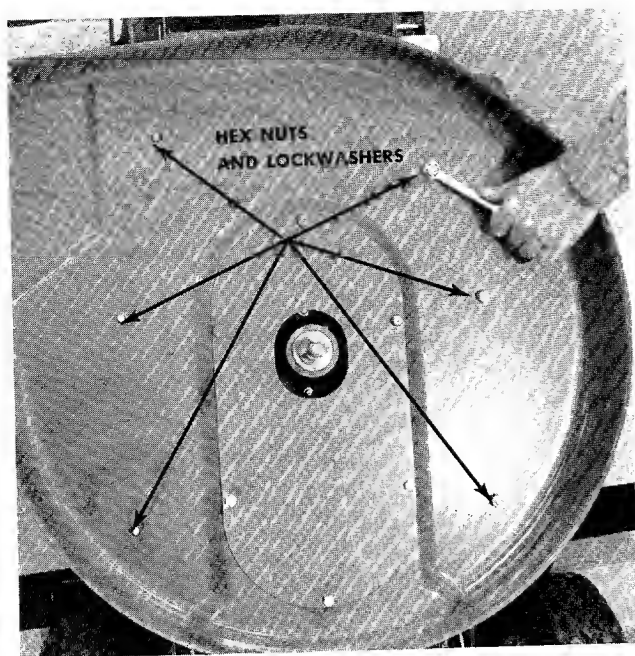

FIGURE 19. REMOVING THE DECK
- Step 3. Take off the deck by removing the six hex nuts and lockwashers as shown in figure 19.
Step 3. Take off the deck by removing the six hex nuts and lockwashers as shown in figure 19.